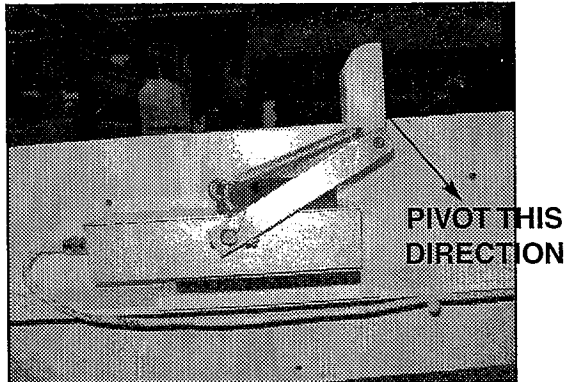

Figure 24
6. If arm adjustment is needed, loosen nut by eye of bolt and set screw in end of bar. Do not go much past vertical with white rubber block. It must be able to pivot down past end of bar. If it pivots the wrong direction, it will jam device. See Figure 24.